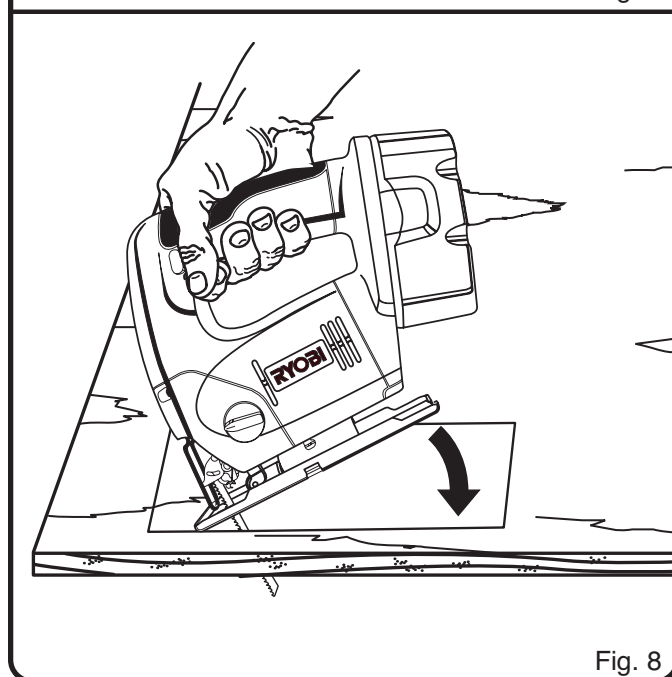

Fig. 8
See Figure 8.
- Using high speed, start your saw and slowly lower the blade into the workpiece until the blade cuts through the wood. See Figure 8.